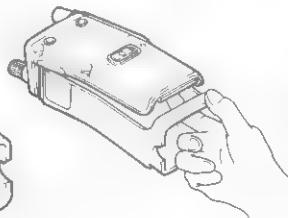

Fig. 2
3. Pull part A shown in Figure 2 with your thumb, put your finger into the battery case, and release the claw of the rear case.